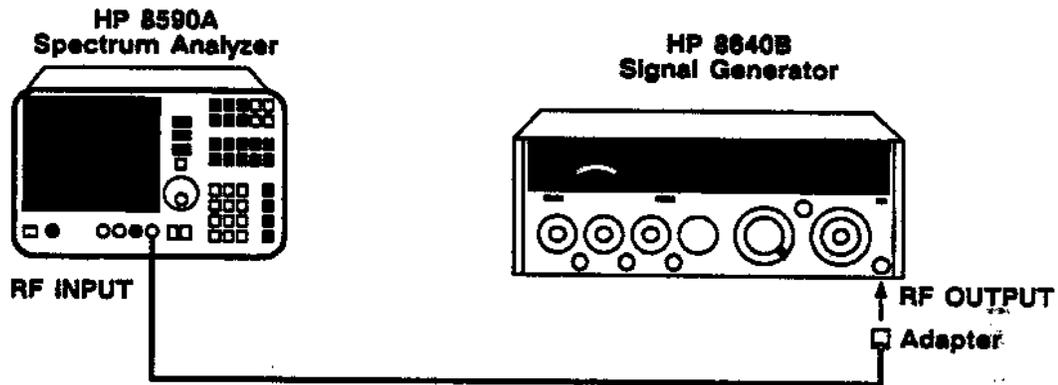

Figure 1-8. Frequency Drift Test Setup
2. Connect equipment as shown in Figure 1-8. If your analyzer has Option 001 (75 ohm RF input), connect the 75 ohm side of minimum loss adapter to the 75 ohm cable, connect the other end of the 75 ohm cable to the RF input of the analyzer, and connect the 50 ohm cable from the signal generator to the 50 ohm side of the minimum-loss adapter.